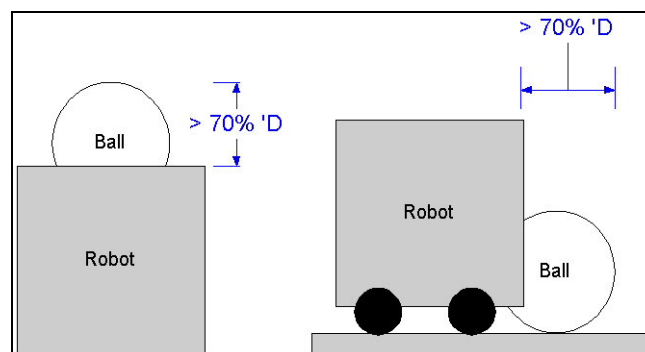

Figure 3: Catching/Holding of Ball
- 2.2.7 The robots are allowed to equip with arms, legs, etc., but they must comply with the size restrictions (Section 2.2.1) even after the appendages fully expanded. None of the robots, except the single designated goalkeeper, shall be allowed to catch or hold the ball such that more than 30% of the ball is out of view either from the top or from the sides. (See Figure 3.)